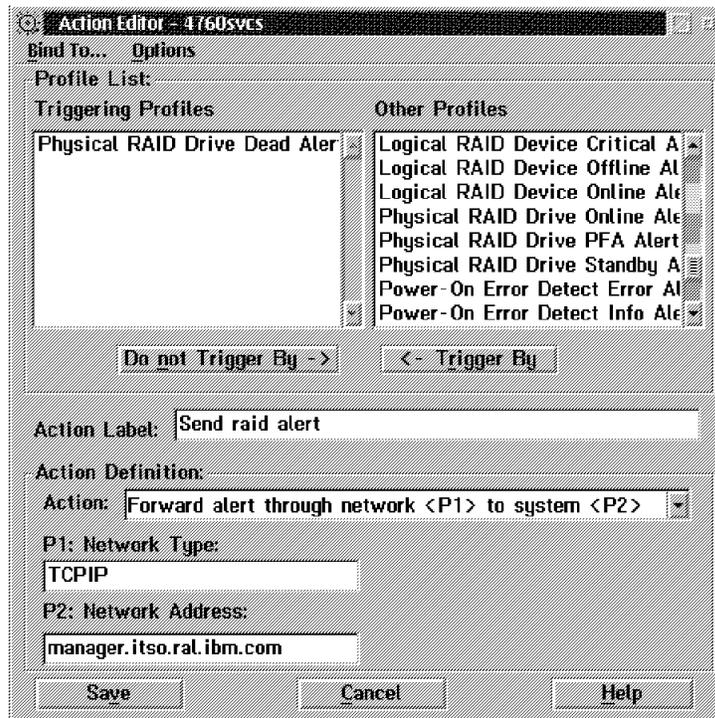

Figure 96. Defining a RAID Alert
7. From the Other Profile List, select **Physical RAID drive dead**, and click on the **Triggered By** pushbutton. You will see Figure 96 on page 284